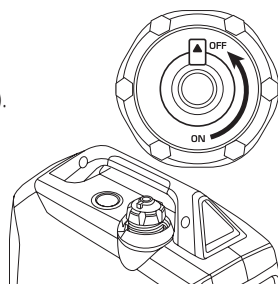

Fig. 8
6. After the generator stops, allow it to cool down and close the air vent on the fuel cap (set to "OFF", as shown in Fig. 8, when switching off petrol operation).
7. After the generator stops, allow it to cool down and close the air vent on the fuel cap (set to "OFF", as shown in Fig. 8, for models KS 2000i S, KS 2000iG S, KS 3000i S, KS 3000iG S - when switching off petrol operation).